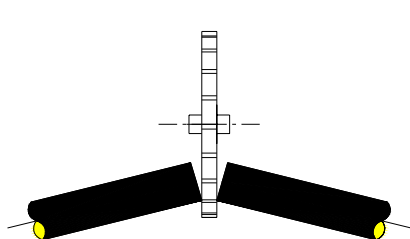

Fig.1
1. Cut the hose at the desired length at right angle with the specific disc cutter. Remove any rubber remainings from the cut hose edge (Fig. 1).